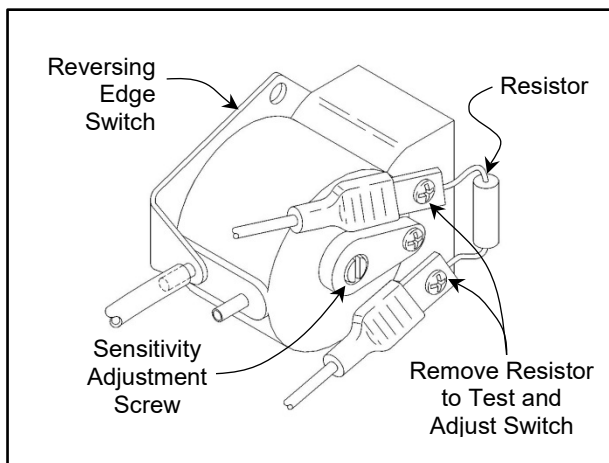

Figure 31
- The reversing edge switch is a normally open contact. The PVC hose is on the lower air input post. To adjust the switch, first remove the resistor from the contact terminals and attach an ohmmeter across the two terminals. (See Figure 31)
- Turn the sensitivity adjustment screw clockwise until continuity is achieved. Then turn the sensitivity screw 2 full turns counterclockwise for a standard setting. Some doors may require a further adjustment counterclockwise. (See Figure 31)